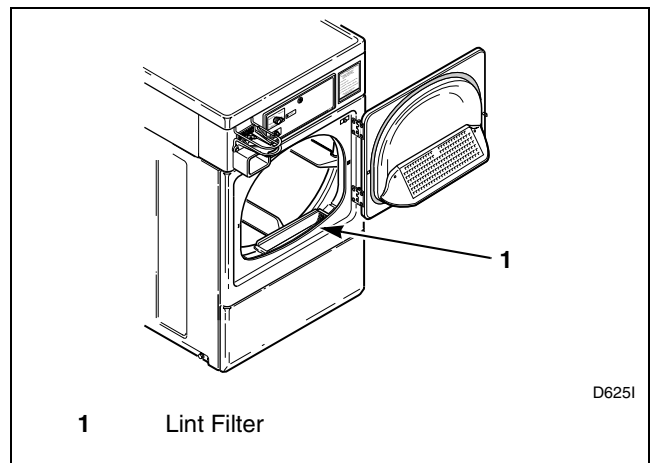

Figure 61
**CLEAN THE LINT FILTER BEFORE DRYING EACH LOAD.** (Refer to *Figure 61* for lint filter location.) Cleaning the lint filter is important because a layer or pad of lint on the filter will block the flow of air through the dryer, thus reducing the efficiency of the dryer. The clothes will take longer to dry and energy will be wasted.